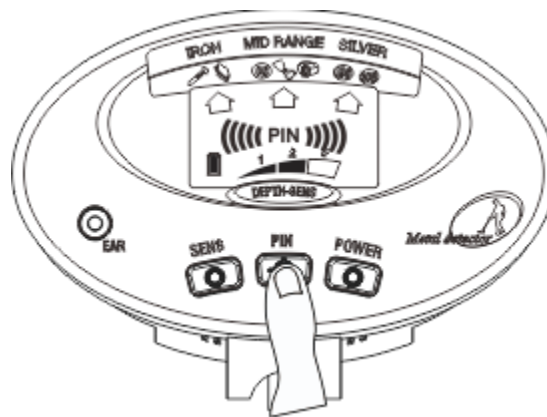

Fig.11
- a) Press and hold down the “PINPOINT” button, the PINPOINT cursor is lighted, and the depth cursor points to the third grade. the detector will sound a low single-frequency mediant. (See Fig.11)